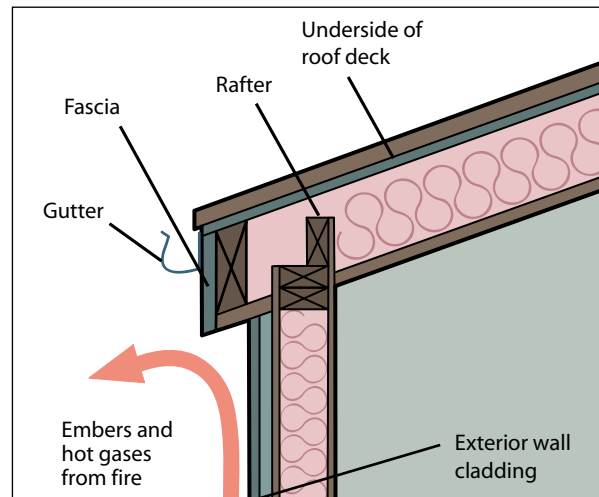

Figure 2. An eave with essentially no overhang.
- Consider designing the building without overhangs (see Figure 2) to avoid the fire-related problems associated with soffits or minimize as much as possible the extent of the overhang to reduce the potential for entrapment of embers and hot gases.